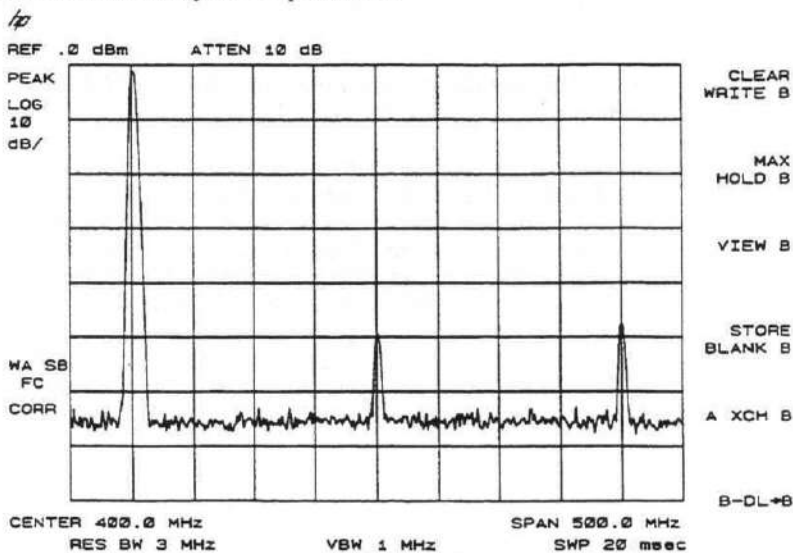

Figure 2-12
**Example:** The signal shown in Figure 2-12 produces harmonic distortion products in the analyzer's input mixer.